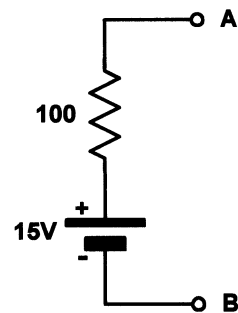

Figure 3.47
- 3.16 The Thévenin equivalent of a network is shown in Fig. 3.47. Determine (a) the short-circuit output current and (b) the output voltage developed across a load of $200\ \Omega$.